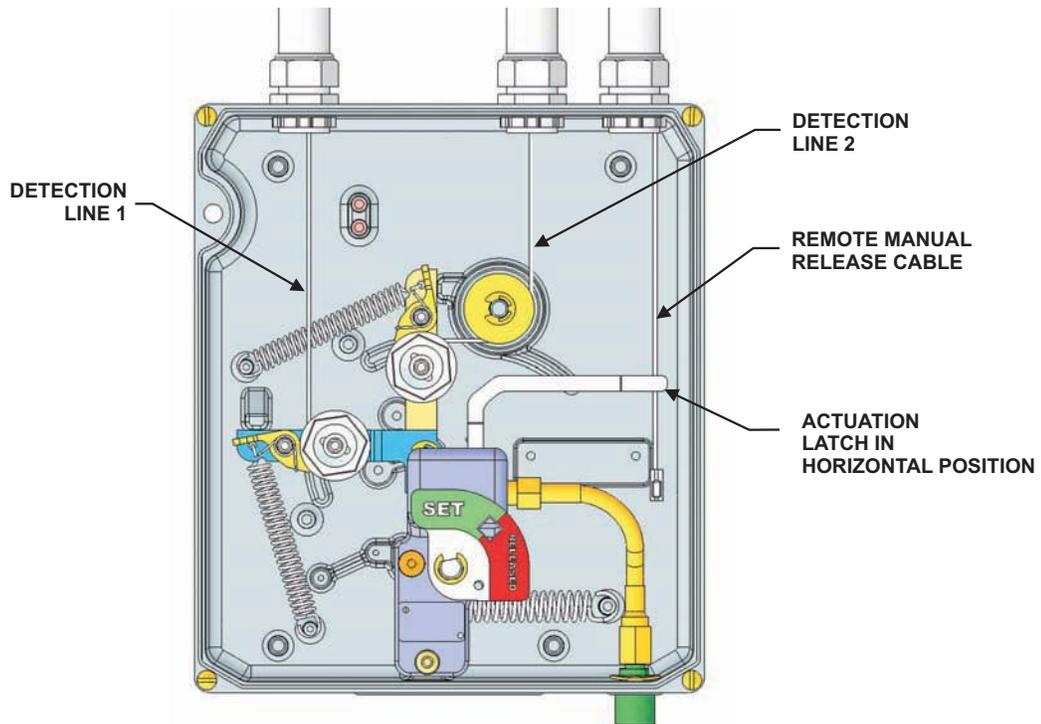

Figure 4-51. Positions of Detection Beams in 'Set' Position
- Using a 7/8-inch socket (or equivalent), carefully ratchet up the slack in the control cable lines (see Figure 4-51). Tighten the line until the beam reached the stop. **Do not overtighten.**